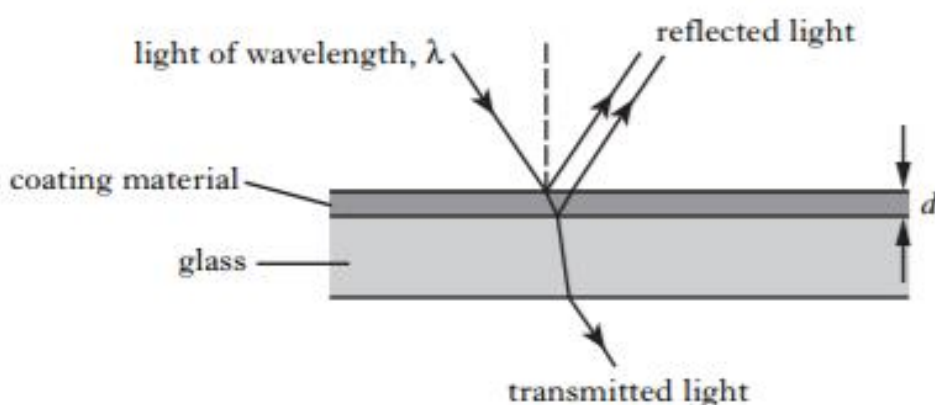

Figure 10A
- (b) Thin film coatings deposited on glass can be used to make the glass non-reflecting for certain wavelengths of light, as shown in Figure 10A.